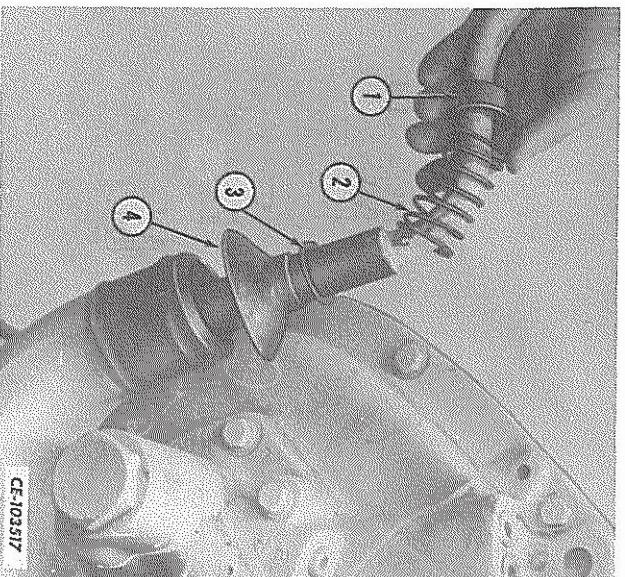

FIG. 94 — Shift Lever Spring Assembly
74. Place the shift lever in the housing. Install the swivel cap (4, Fig. 94), spring washer (3), spring (2) and spring stop (1) on the shift lever. Secure this assembly by